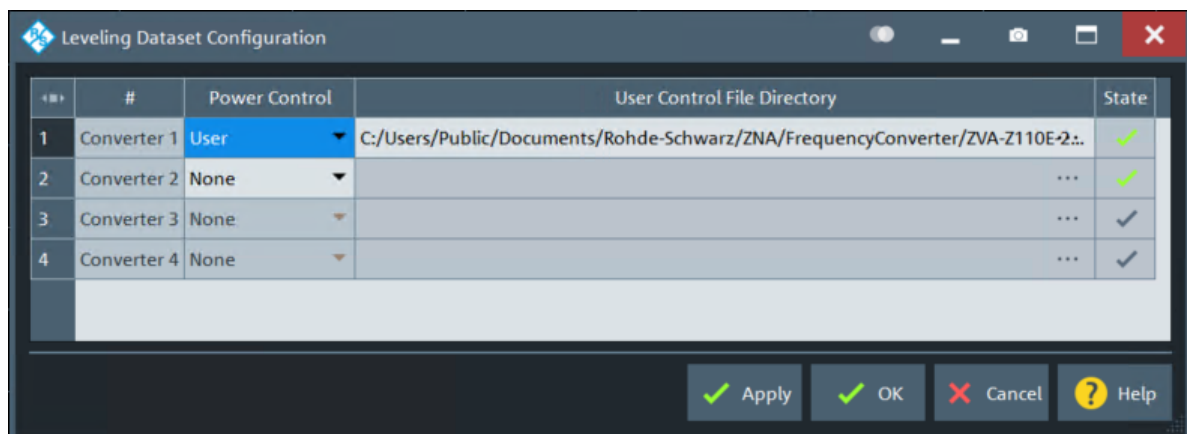

Figure 9-4: Leveling Dataset Configuration
- Open the "Frequency Converter" tab of the "System Configuration" dialog (see Figure 6-1). Click the ellipsis button in the "Power Control" column of the "Port Config" table to open the Power Control dialog (see Figure 9-4). Select "RF In Power (and Electronic Attenuator) with Data Set" and click "Read User Data Set" to load the calibration data.